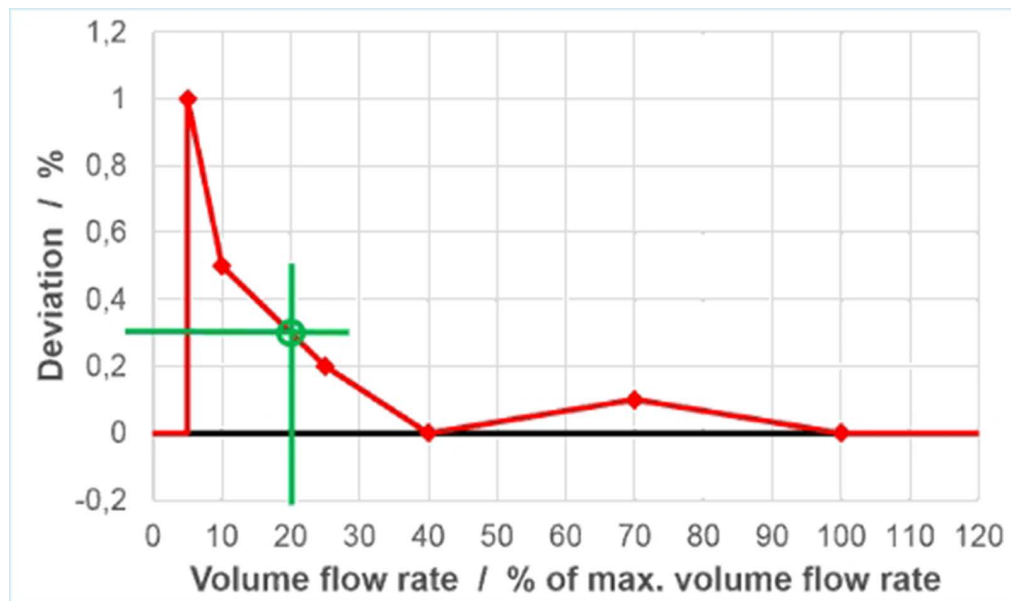

Fig. 77: Curve of the support point correction
**Example calculation** for a flow of 20% of the measurement range end value (marked in green in fig. 77):